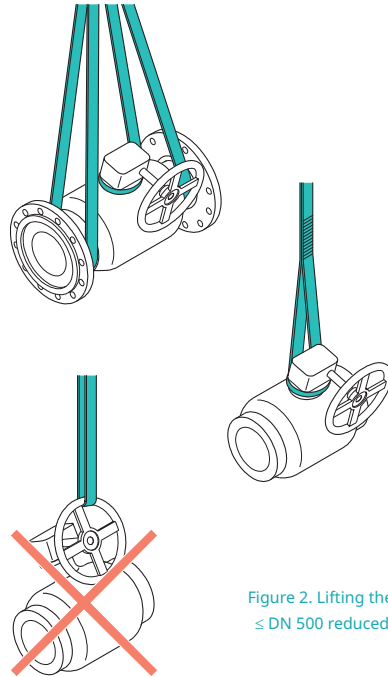

Figure 2. Lifting the valve  $\leq$  DN 500 reduced bore
Use lifting ropes when lifting the large size valves. It is forbidden to lift the valve by its actuator or stem (see Figure 2).
- Use one of the allowed lifting methods shown in Figure 2.